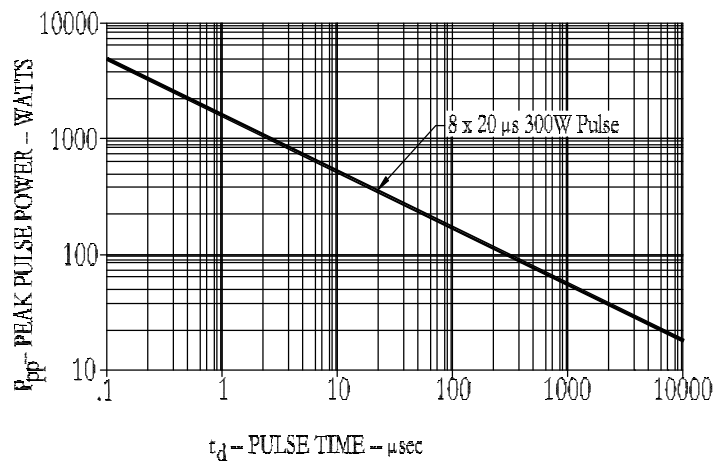

FIGURE 1
- Peak Pulse Power: 300 Watts (8/20 μ sec, Figure 1)